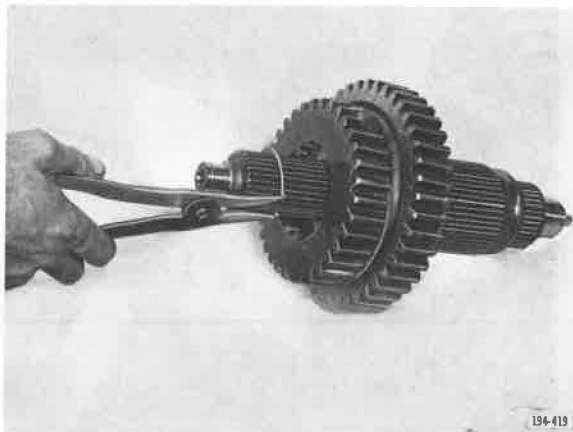

Figure 119. Removing Snap Ring
4. Remove fourth speed gear retaining snap ring, using snap ring pliers J-29045, or equivalent. See Figure 119.